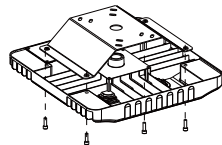

Figure 6
- 1.Fix the mounting bracket on the back of fixture by supplied screws.(Figure 6)